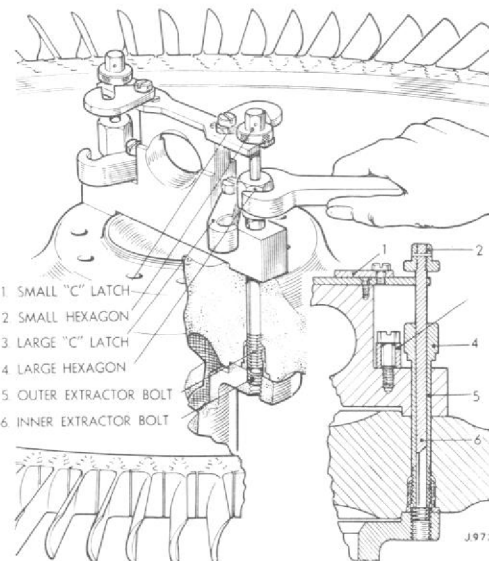

Fig. 14. Removing turbine disc with combined lifting and extracting fixture T.74810.
10. Position combined extractor and lifting fixture T.74810 on the disc, Fig. 14.